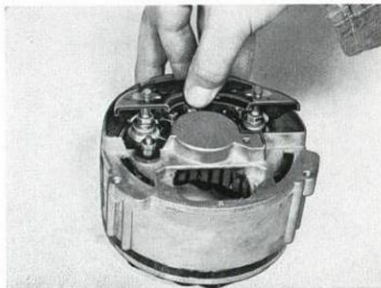

Fig. 3-59. Removing positive diode plate
6. Remove the nuts for the positive diode plate and lift up and bend aside the plate, see Fig. 3-59.